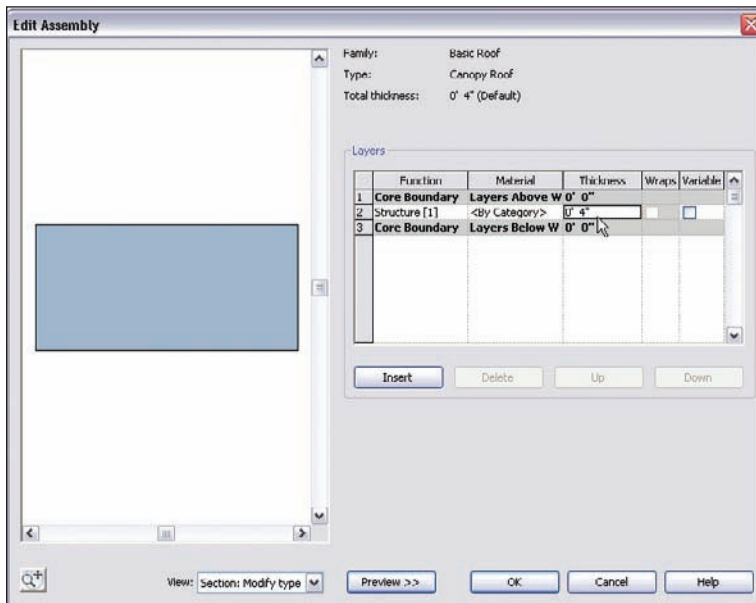

FIGURE 7.52 Changing the thickness of the canopy roof
12. In the Edit Assembly dialog, change the structure thickness to 4", as shown in Figure 7.52.